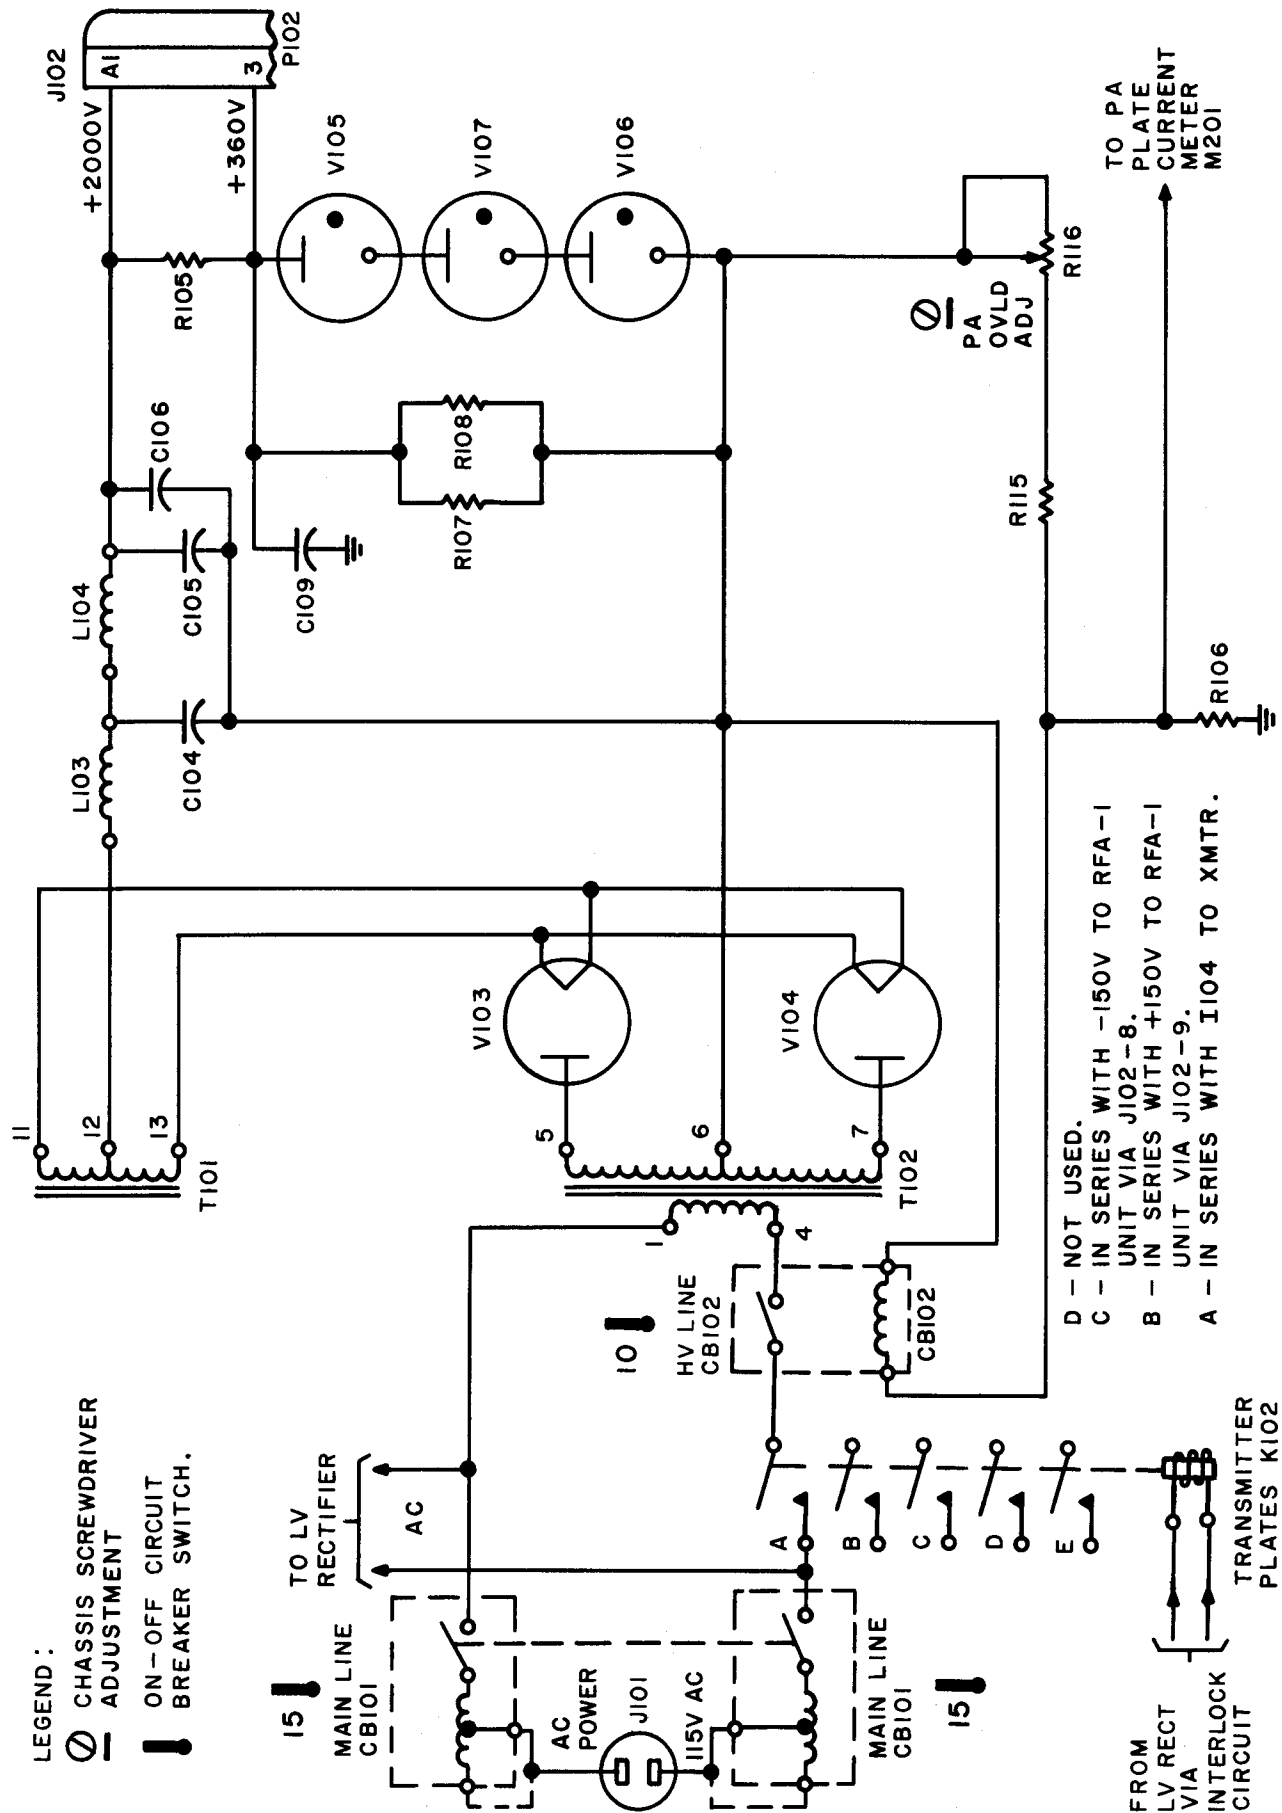

Figure 4-9. Simplified Schematic, High Voltage Power Supply Circuit, PAL-350
4-3. POWER SUPPLY PSP-350. (See figures 4-9 and 4-10.)
b. HIGH VOLTAGE CIRCUIT. (See figure 4-9.)